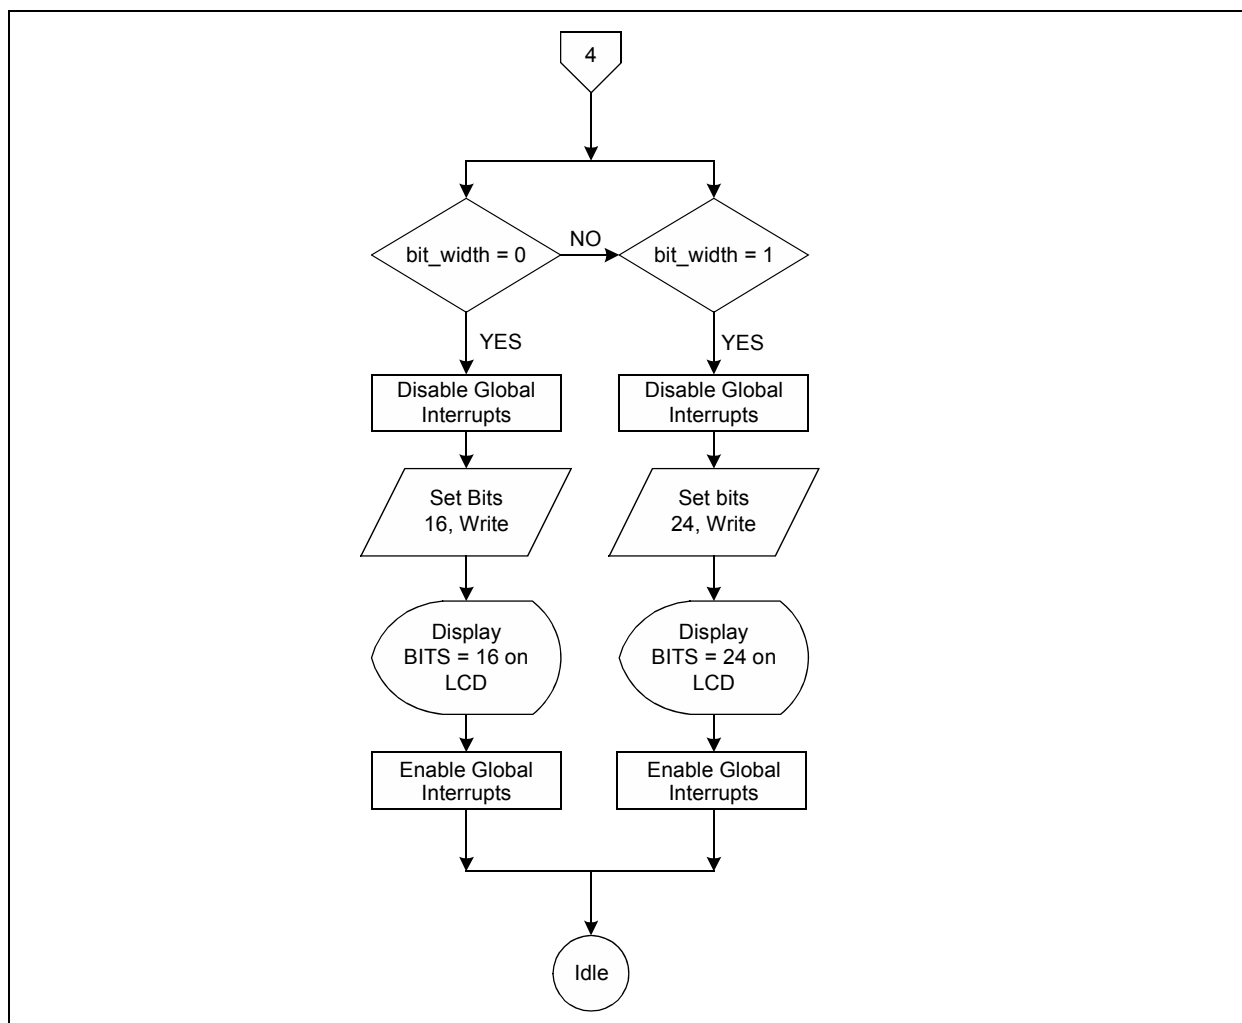

FIGURE 4-5: Key Press Routine to Configure Bit Width of Channel CH0 and CH1.
- Bit width changing routines (see Figure 4-5)